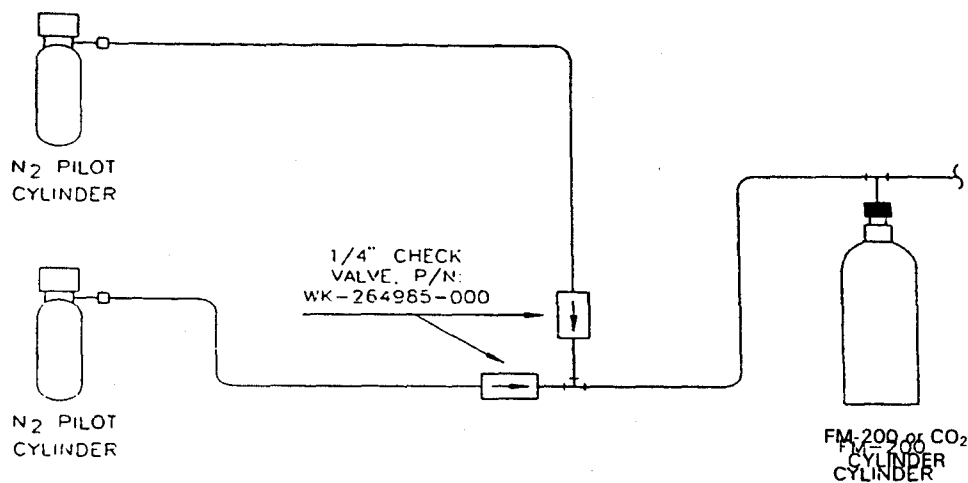

Figure 3.6.2.4 - Multiple pilot nitrogen actuation cylinders
3.6.2.4 Use of Multiple Nitrogen Cylinders (See Figure 3.6.2.4).